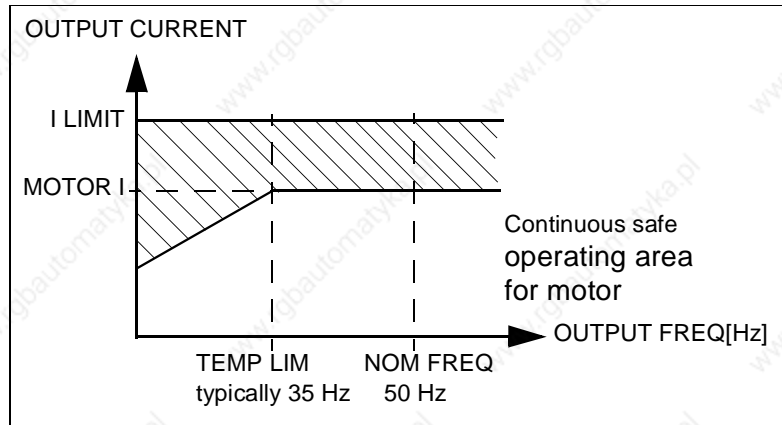

Figure 7-6 Motor thermal protection.
**TEMP LIM** The ACS 300 motor thermal protection (sometimes called I2t or solid state overload protection) is activated by using the TEMP LIM parameter. When set to OFF, the motor overload protection is deactivated. The TEMP LIM and MOTOR I parameters define the continuous safe operating area for the motor, as illustrated in Figure 7-6.
**MOTOR I** Nominal motor current at full load as indicated on the motor rating plate. See U/f RATIO, TEMP LIM and Figure 7-6. This parameter does not need to be set if TEMP LIM is set to